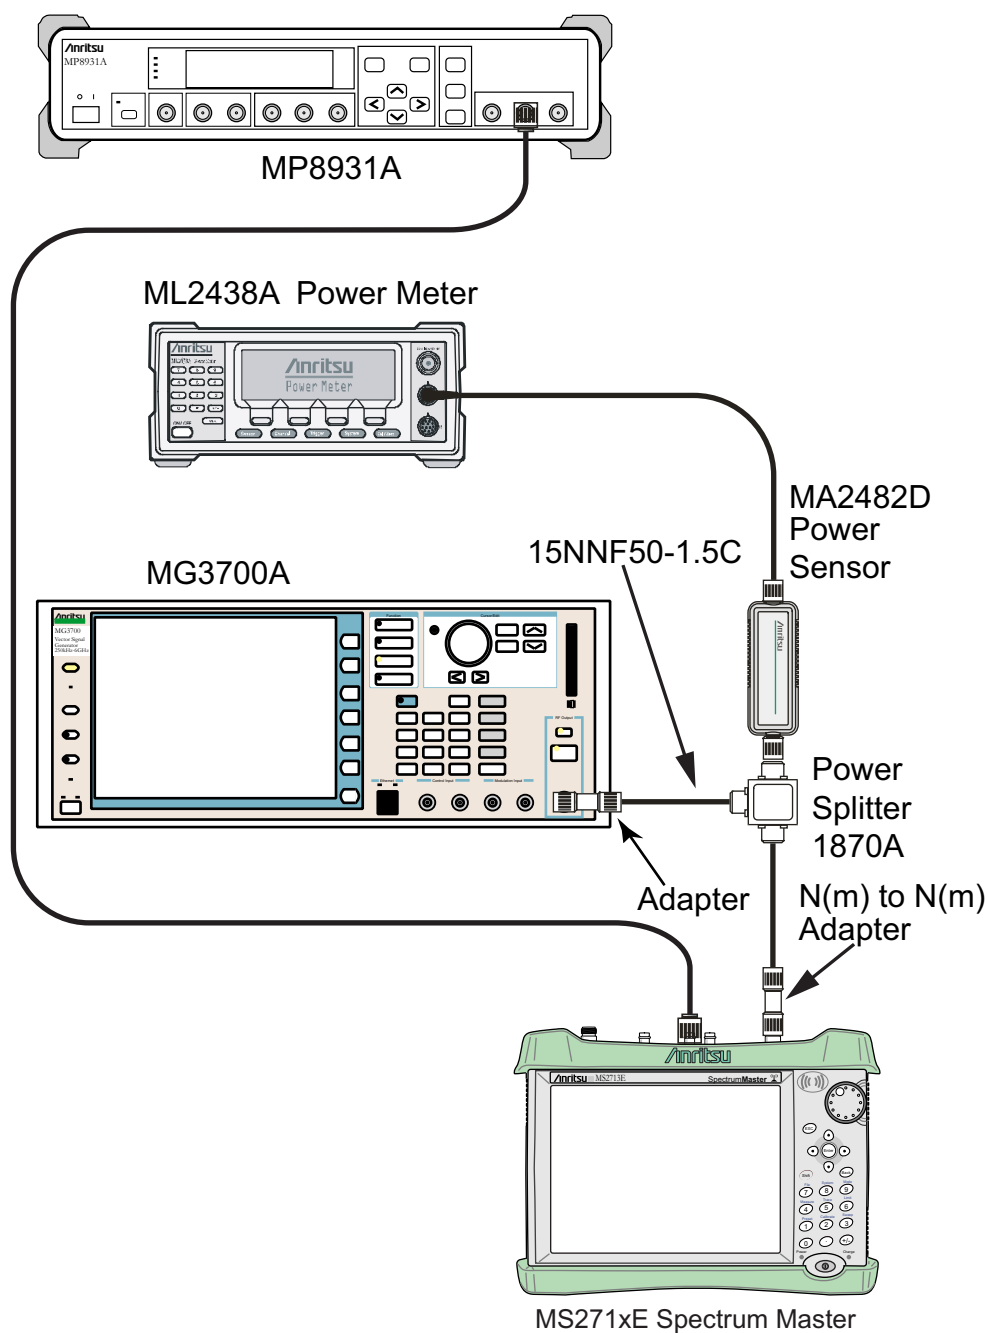

Figure 3-19. DVB-T/H BER, Option 57 – BER Functional Check Setup
3. Connect the MG3700A Signal Generator, Power Splitter, Power Sensor, 34NN50A Adapter, Spectrum Master, and the MP8931A as shown in Figure 3-19 on page 3-74.